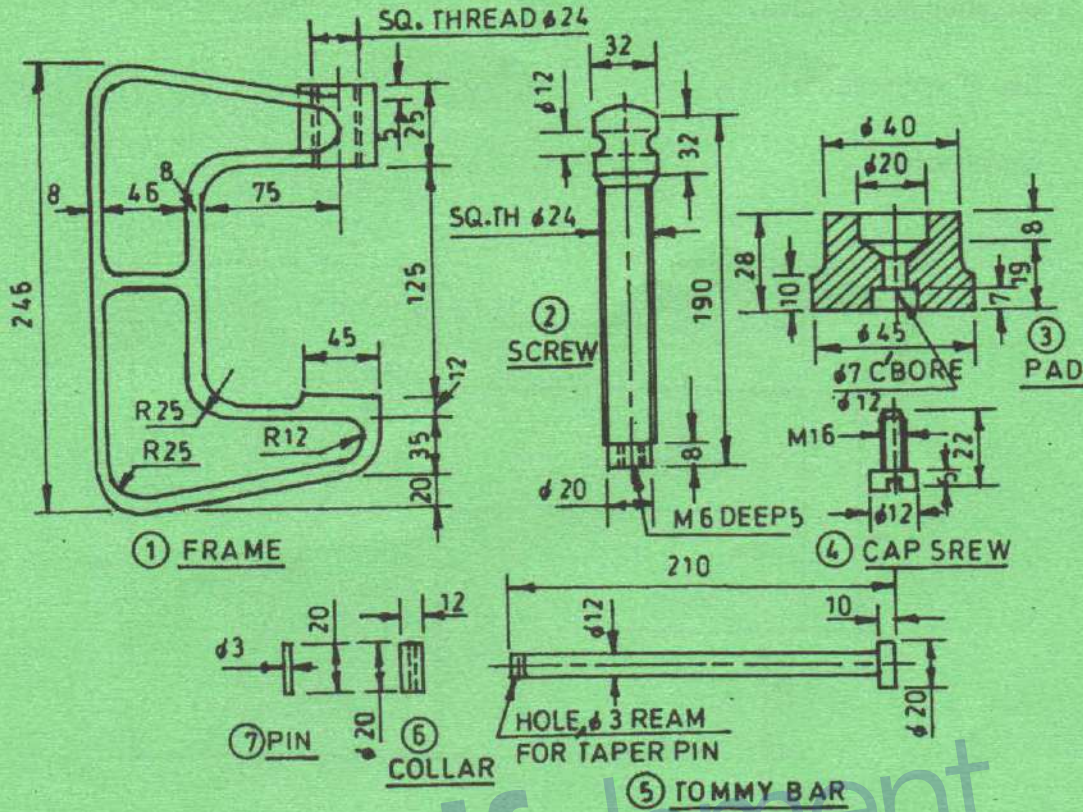

Fig.3
6. Figure 3 shows parts of a C-clamp. Draw an assembly of the C-clamp and include a parts list.